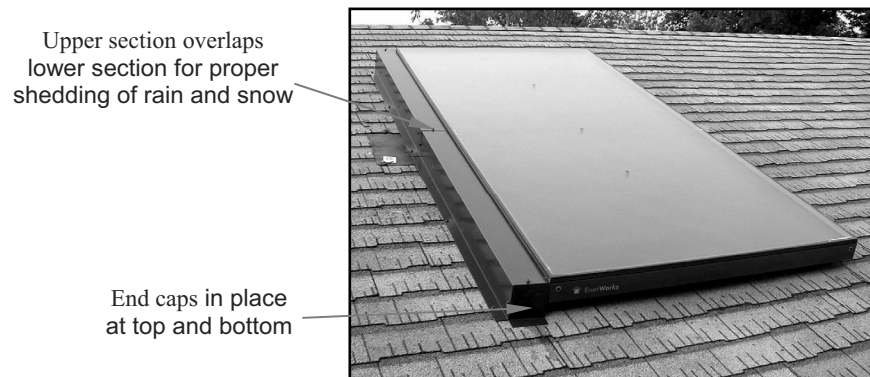

Fig.6.1.1 – Collector side flashing. Note roof-penetration boot under side flashing.
One collector Appliance includes side flashing that must be installed to cover connections, insulated line-set, thermistor and control wires, and roof penetration. Side flashing may be installed on left or right of collector but must cover connections and roof penetration. Side flashing includes two thin lengths of painted, galvanized steel with 90° bends and two end caps for top and bottom (*Fig.6.1.1*).
3. Insert rectangular caps into upper and lower holes created by side flashing and collector (*Fig.6.1.1*). Secure to roof with included roofing screws. Secure to upper and lower side flashing with included self-drilling screws.